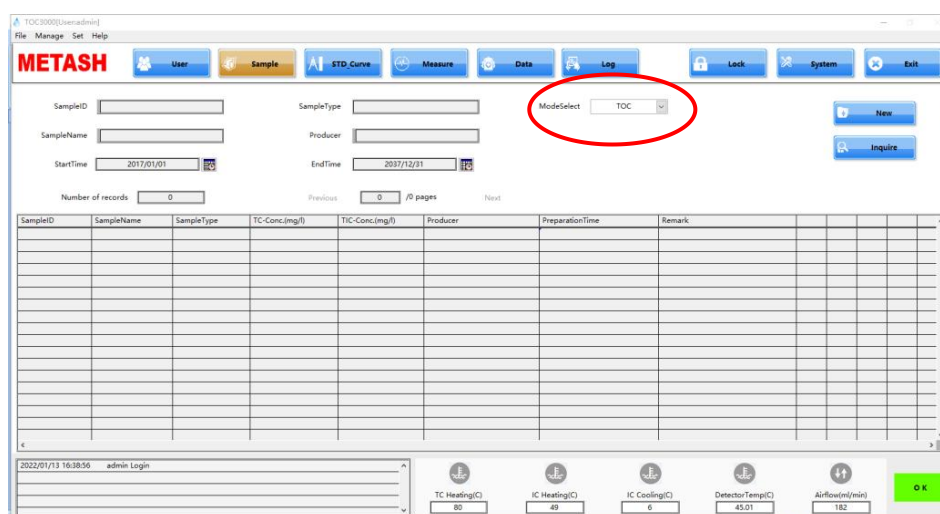

Fig 4.6
1. Click  to enter the 'sample management' interface, then select the NPOC/TOC/TC/TIC mode in 'Mode selection' as needed. This section only takes the TOC mode as an example. (Fig 4.6).